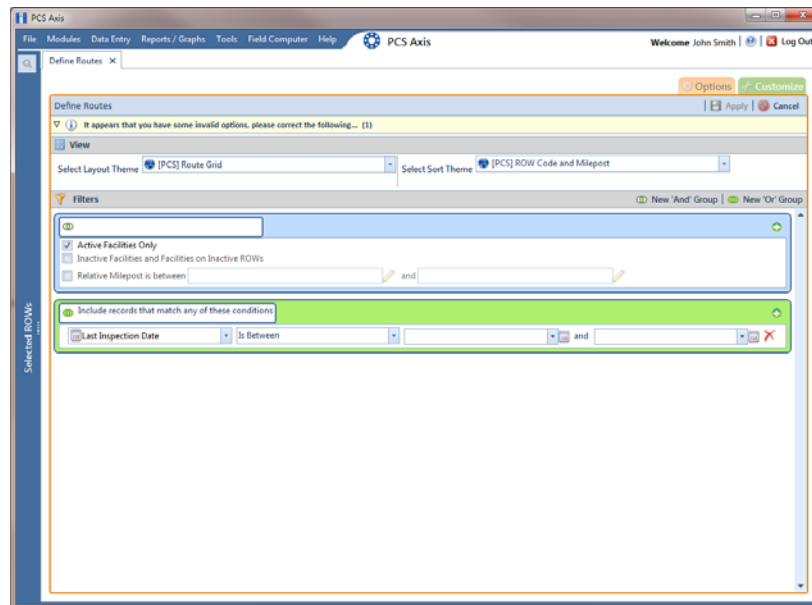

Figure 8-5. New 'Or Filter Group
- a Click  **New 'Or' Group** to open a filter properties group box (Figure 8-5).